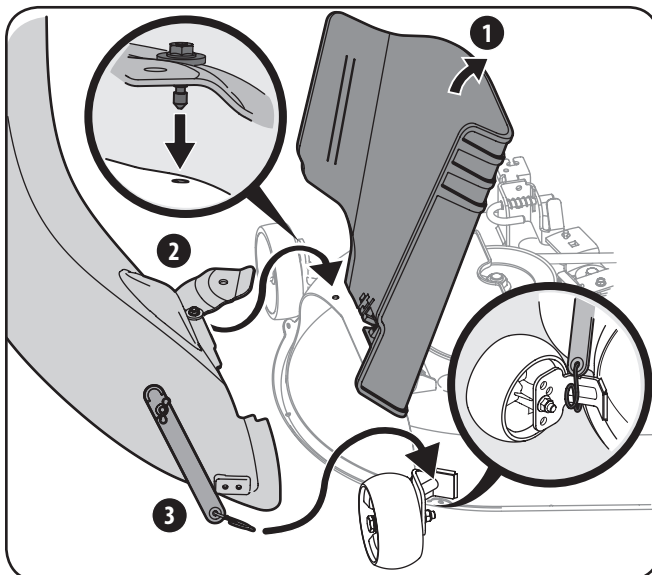

Figure 4-22
3. With the tractor's discharge chute raised up and held open (1 of Figure 4-22), install the chute elbow over the chute opening by placing the deck mounting pin in the hole provided (2), then secure the elbow to the deck by hooking the retainer strap torsion spring hook over the deck wheel mounting bracket as shown in (3) of Figure 4-22.